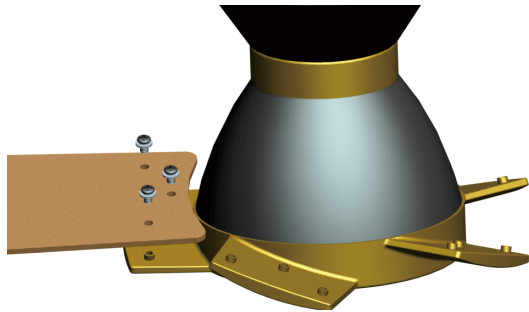

Fig 7.1
7.1 Locate 15 blade attachment screws with integrated washers in the hardware pack. Make sure the screw holes on each fan blade matches the corresponding holes on the blade bracket and tighten the blade screws as shown in Fig 7.1.